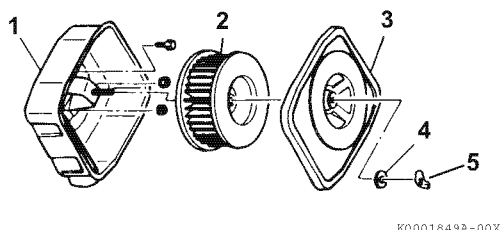

Figure 5-7
1. Remove the wing nut (5, **Figure 5-7**) and gasket (4, **Figure 5-7**).
2. Remove the air cleaner cover (3, **Figure 5-7**).
3. Remove the air cleaner element (2, **Figure 5-7**).
5. Clean the inside and outside of the air cleaner housing and cover (1, 3, **Figure 5-7**).
6. Reinstall (or install the new) air cleaner element (2, **Figure 5-7**) into the air cleaner housing.